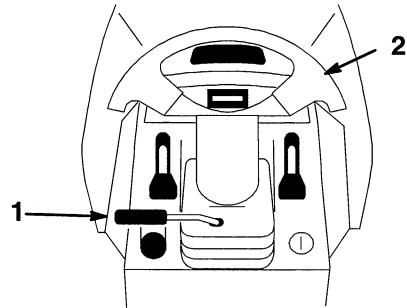

Figure 12
1. Lift the tilt lever to release the lock (Fig. 12).